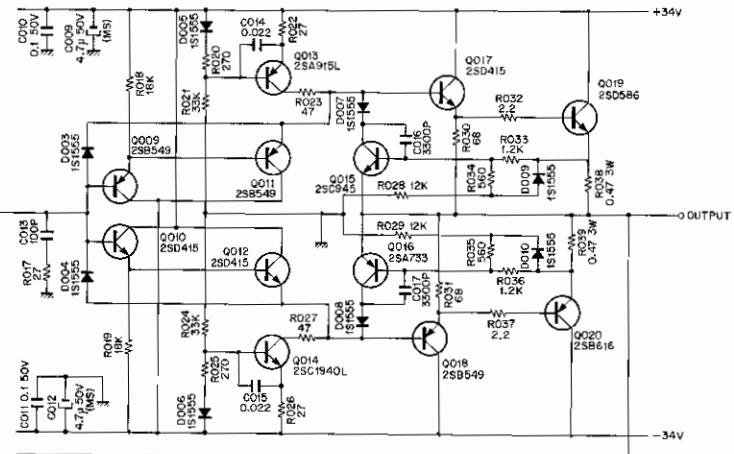
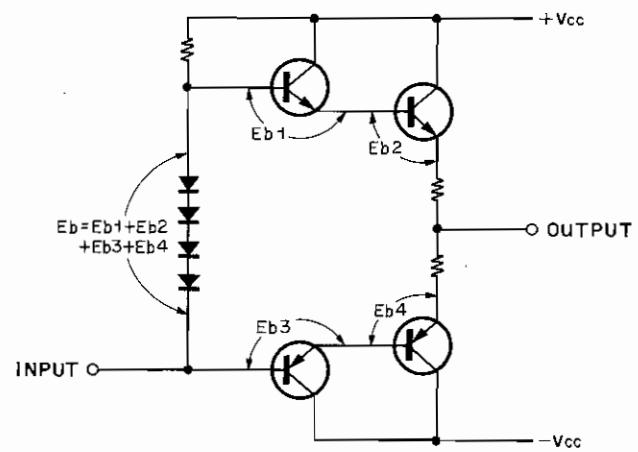
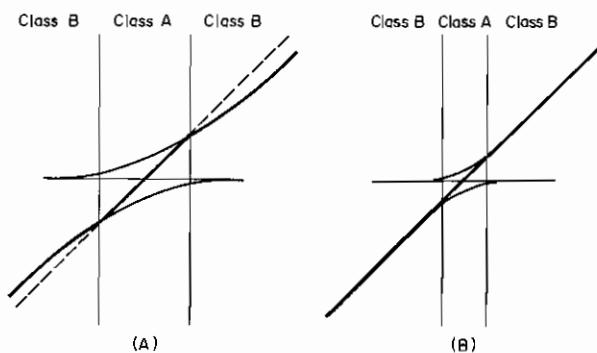
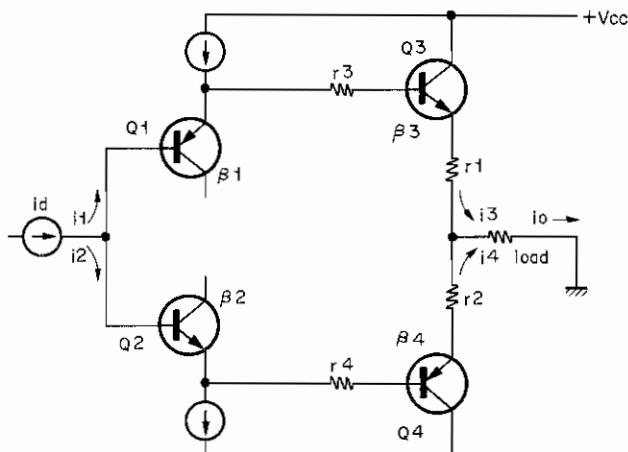

Fig. 2.3
Fig. 2.4
Fig. 2.5
Fig. 2.6
Especially for a class B push-pull amplifier, distortion cannot be reduced unless the positive and negative signal amplifiers are well balanced. The amplifier in the 420, however, is best balanced thanks to the vertically and horizontally symmetric configuration as shown in Fig. 2.3. This circuit allows distortion of only 0.1% at 1KHz 50 watts output even without NFB. This degree of distortion is low enough to make the amplifier used as a high-fidelity unit even if it is given no NFB.
Fig. 2.4 shows that a change in current flowing across the diode varies the terminal voltage and that E_b changes with signal current. These changes result in the generation of distortion. It is a matter of course that signal current flowing across the diode will produce distortion. See Fig. 2.3. Transistors Q009, Q011, Q010 and Q012 that generate bias voltage form an emitter-follower circuit of class A operation. Thus this circuit does not induce distorted signals.
For an ordinary class B amplifier, crossover distortion is reduced by increasing idling current thus overlapping the operating ranges of the positive and negative transistors. The overlap portion acts as a class A amplifier. Generally, the degree of amplification decreases where a change takes place from class A to B and no linear curve is obtained as shown in Fig. 2.5 (A). However, if the circuit shown in Fig. 2.3 is current-driven, a linear curve can be obtained at the point of change from class A to B as shown in Fig. 2.5 (B).
Fig. 2.6 illustrates a simplified version of the circuit shown in Fig. 2.3.
Since the direct-coupled two-stage emitter-followers can be regarded to be one emitter-follower having greater current amplification, the Q009–Q011, Q010–Q012, Q017–Q019, and Q018–Q020 will be designated respectively to be Q1, Q2, Q3 and Q4 as shown in Fig. 2.6.